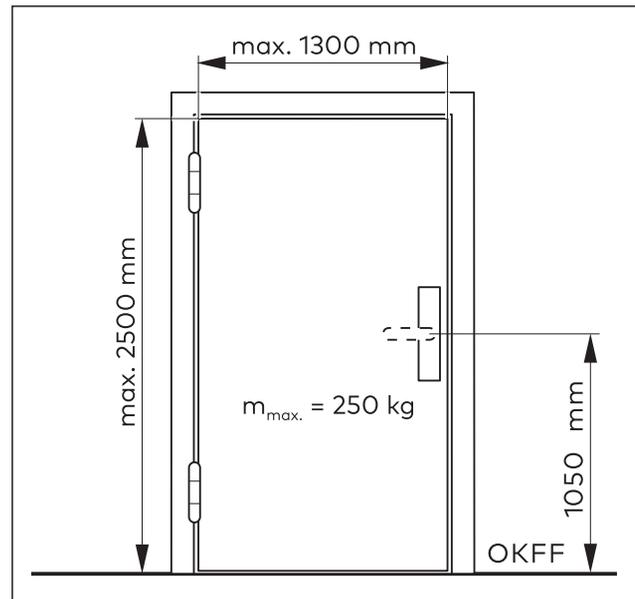

Fig. 9 Requirements for the door
- The door corresponds to the specifications in Fig. 9 and is deformed by a maximum of 5 mm.